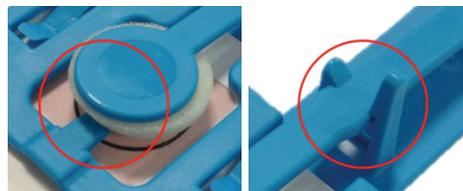

Figure 7
- Ensure the stem lock is in the upper position as shown when drying, and that the foam head has been released fully from underneath the head tab (Figure 7).